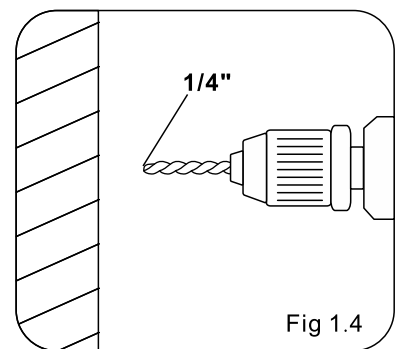
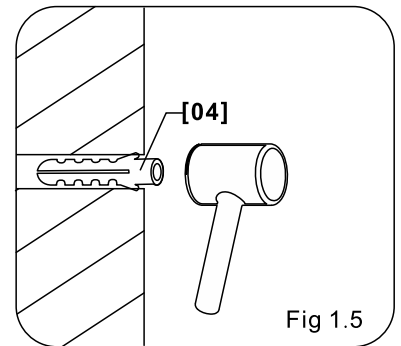

Fig 1.4
Fig 1.5
4. Drill a 1/4" hole at each marked location and insert the **Anchors [04]**. (Fig 1.4, Fig 1.5)